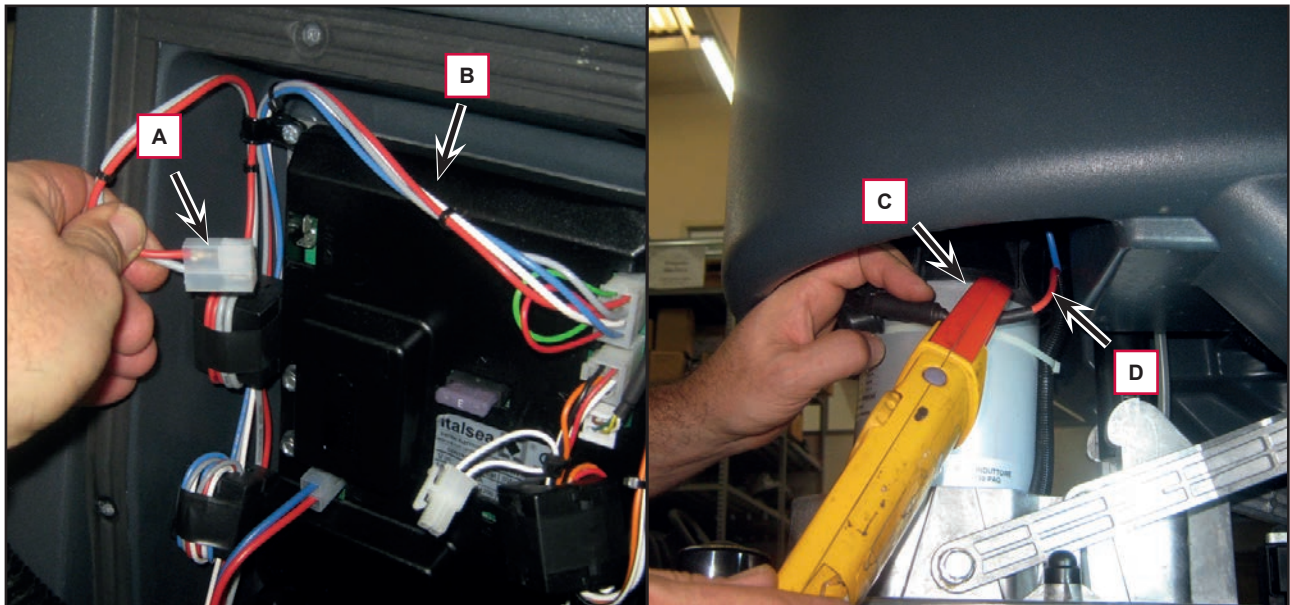

Figure 6
5. Disconnect the drive system connector (A) (Figure 6) on the function electronic board (B) to disable machine movement.
8. Apply the amp clamp (C) to an electrical cable (D) of the brush motor.